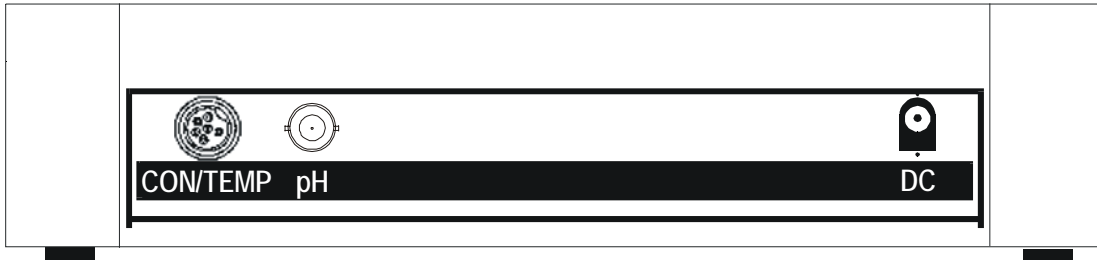

Figure 1 : View of meter rear panel
1. Line up the notch and 6-pins on the probe connector with the holes in the connector located on the top of the meter. Push down and screw the metal sleeve to lock the probe connector into place. See Figure 1 on page 1 for the meter rear panel view.
3. Insert the D.C. jack into the socket at rear panel of the meter as shown in Figure 1 on page 1.